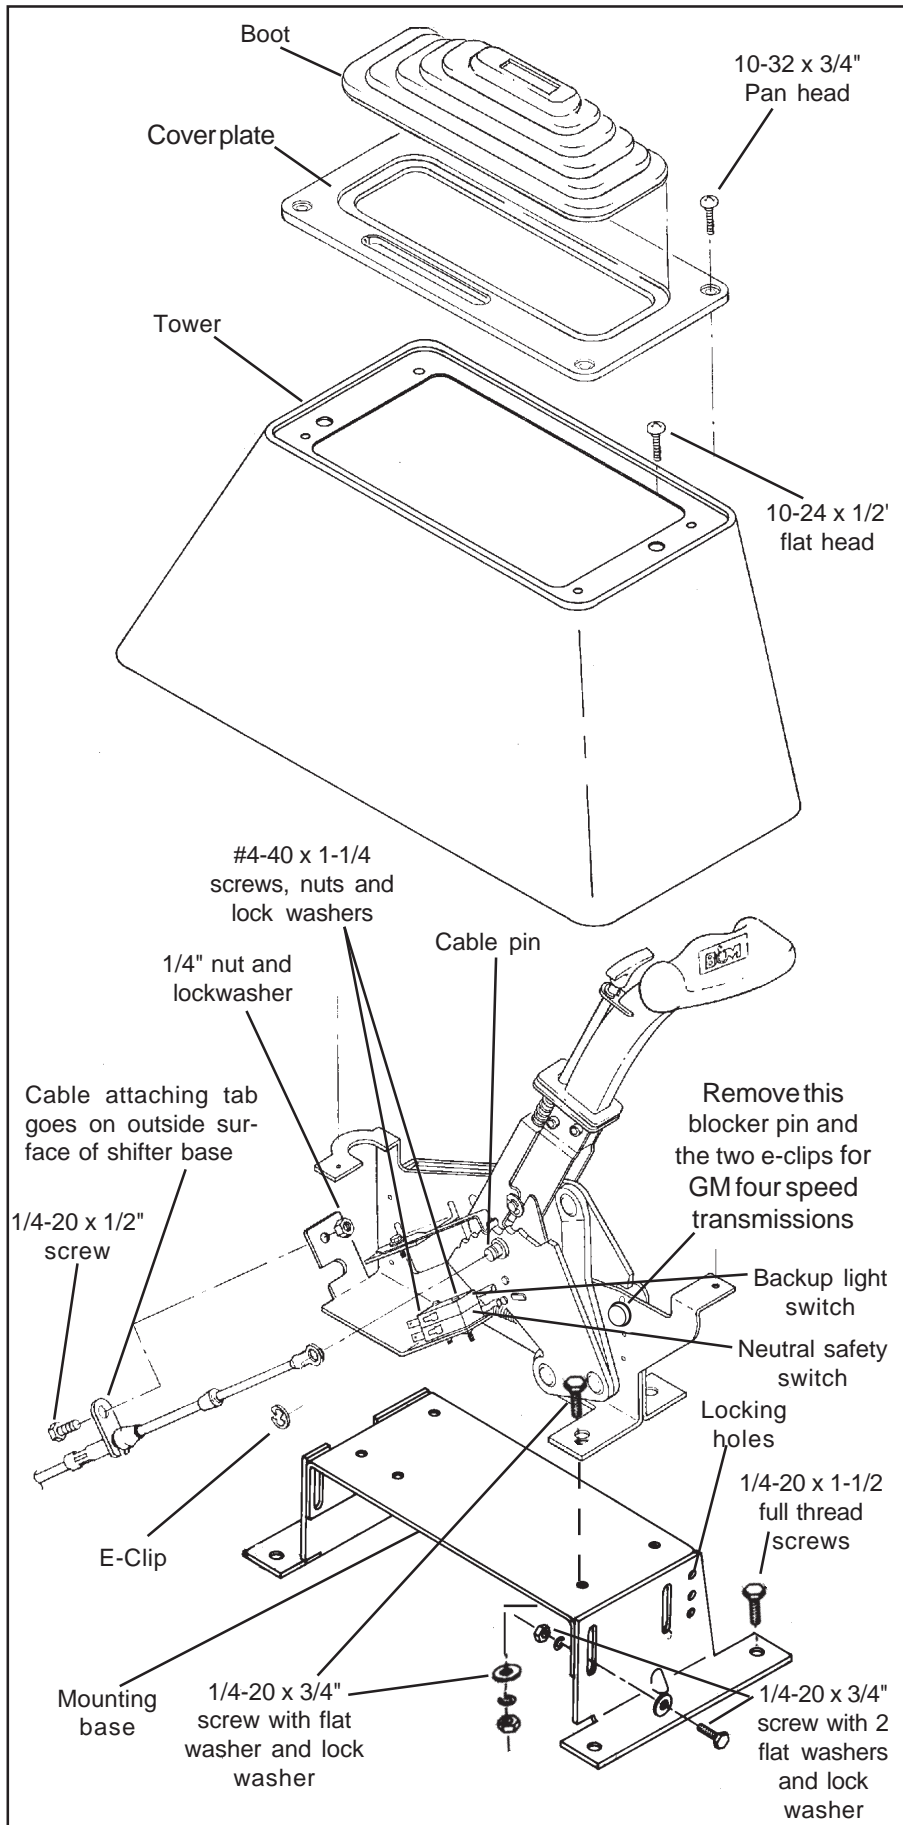

Figure 1
NOTE: If you are installing this shifter with a GM four speed automatic transmission, you must remove the blocker pin and the two e-clips indicated in **Figures 1 and 3**. Removing this blocker pin gives the shifter four forward positions rather than three. For Ford AOD four speed transmissions do **not** remove this blocker pin and the two e-clips, since this transmission has only three forward positions. Also do **not** remove the blocker pin and the two e-clips for three speed automatic transmissions.
STEP 3. Assemble the mounting bracket as shown in **Figure 1**. Be sure that the end plate with the wide slot on top is to the front and that the top plate has the three holes at the front. Assemble the bracket with the four 1/4-20 x 3/4" screws finger tight. Put flat washers on both sides of the brackets and a lock washer under the nut.
STEP 7. Assemble neutral safety and reverse light switches to the bracket using two #4-40 x 1" screws and nuts, as shown in **Figure 1**. **Beware**, over tightening the switch attachment screws will crack the switch housings. Install the switch assembly on the shifter. To adjust the switches, loosen the screws and slide the switches in or out as required, then retighten the screws.
STEP 8. Install the cable on the shifter as shown in **Figure 1**. The cable attachment tab should be bolted to the outside surface of the shifter base using a 1/4" x 1/2" hex screw, lock washer and nut. Install the e-clip that secures the cable to the cable pin.
sion shift lever. On C-4, C-5 and C-6 transmissions, it will be necessary to hook up the neutral safety/backup light switches on the **B&M Megashifter**. Locate and identify the neutral safety (the engine will not crank unless these wires are connected together), and the reverse light wires. Disconnect the battery ground cable before beginning to wire the neutral safety and reverse light switches. Reroute the wires to the **B&M Megashifter**. Strip 1/4" of insulation off the wires and install the supplied slip-on terminals. Crimp the terminals onto the wires using a crimping tool or pliers. Connect the neutral safety wires to the **LOWER** switch and the reverse light wires to the **UPPER** switch (See Figure 1). Tape the terminal connections to prevent shorts. Reconnect the battery ground cable, disconnect the coil wire and set the parking brake. Check the switch operation by attempting to start the motor in each shifter position. **The starter must crank only when the shifter is in the Park or Neutral position.** Check the backup light operation when the shifter is shifted to the Reverse position. Adjust the switches if required. Reconnect the coil wire. Go to **Step 29**.
Megashifter (See Figure 1). Reconnect the ground wire and check the light for proper operation. Adjust the switches on the shifter if required.
'66-'68: The neutral safety switch will continue to function normally. It will not be necessary to hook up the neutral safety switch wires on the shifter. Disconnect the battery ground cable before wiring the backup light switch. Locate the original backup light switch on the steering column or the console shifter. Run these wires to the top switch on the **B&M Light Truck Megashifter (See Figure 1).** Reconnect the ground wire and check the light for proper operation. Adjust the switches on the shifter if required.